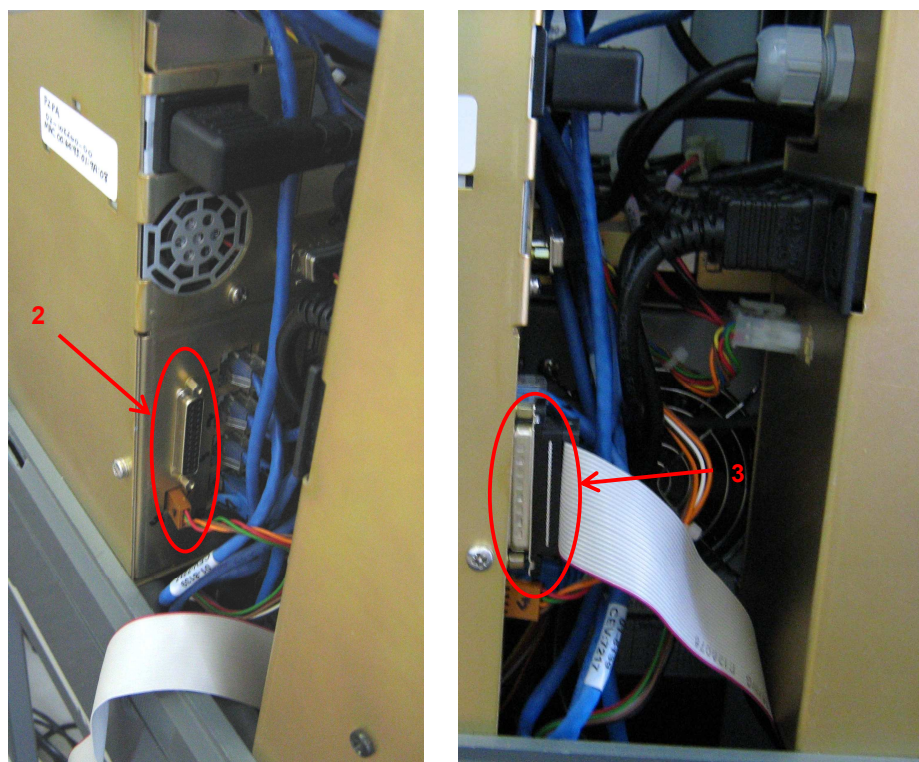
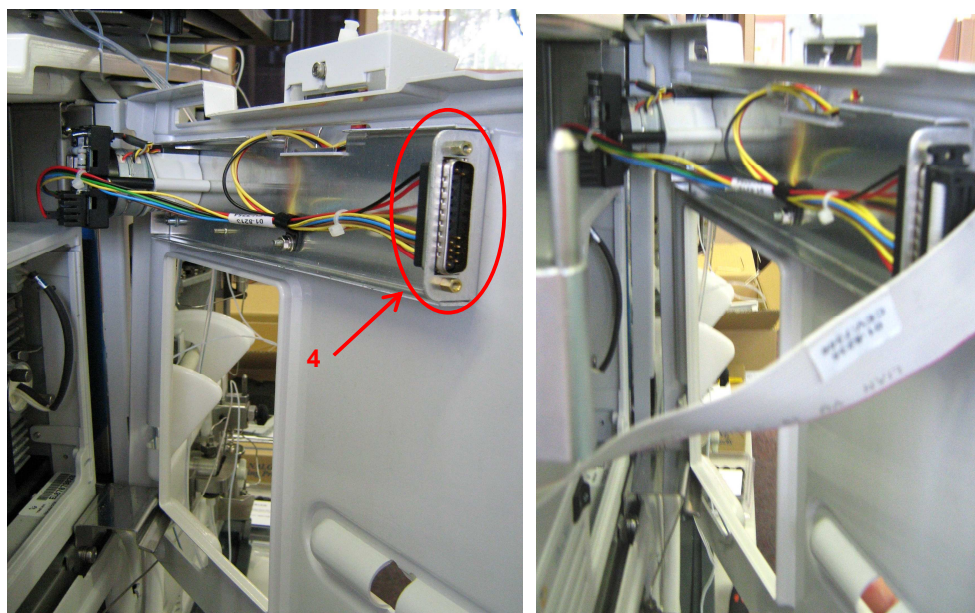

Figure 9: Connecting the ribbon cable to the MIB
Figure 10: Ribbon cable loom connection into the MIV
10. The ribbon cable plugs into the 25 pin socket (2) on the MIB instrument as shown in *Figure 9*.
11. Once the ribbon cable has been attached to the MIB *Figure 9 (3)* take the front panel with the 6 port valve and wiring already assembled to it and plug the other end of the ribbon cable loom into the 25 pin connector (**4**) shown in *Figure 10*.